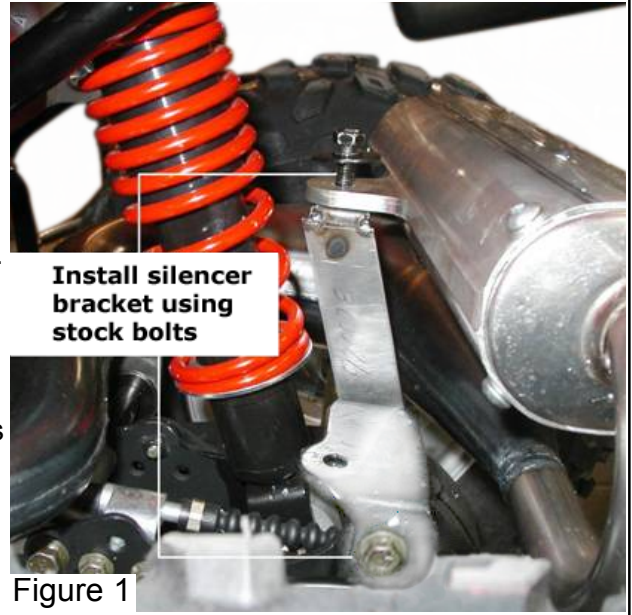

Figure 1
5. Attach the rear silencer bracket as shown in figure 1 with stock OEM bolt. Do not fully tighten at this time.